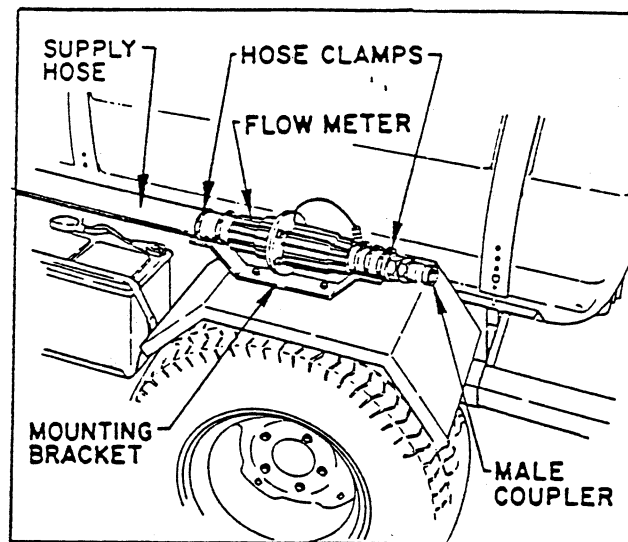

FIG. 10
- Attach the Mounting Bracket to the left rear Fender as shown in FIG.10, using two 5/16" x 1" hex hd cap screws, washers and nuts